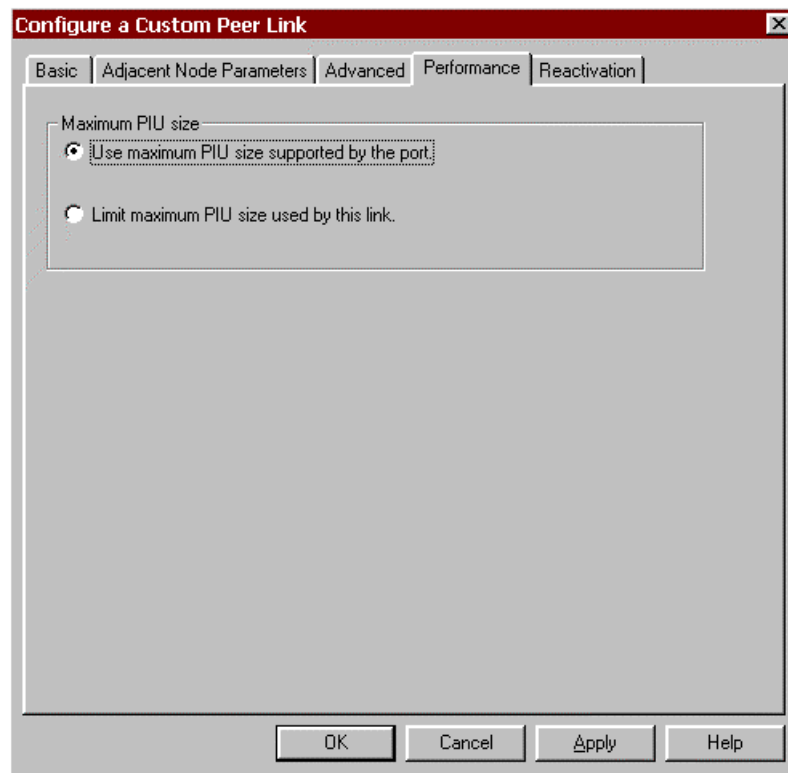

Figure 11-29. Configure a Custom Peer Link - Performance
5. Click the **Performance** tab (Figure 11-29).